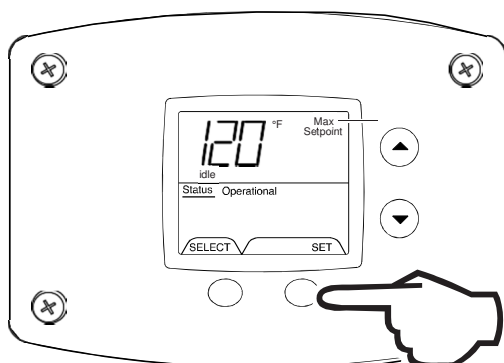

Fig. 45
4. Press 'Set' button to confirm new 'Max Setpoint' value and stop setting mode (Fig. 45).